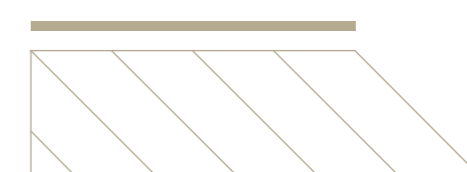

Figure 14: Cutting the row along the centre line. Cutting a groove and inserting the loose tongue.
3. Cut the row along the centre line. Cut a groove down the full length of the row with the router bit included in the delivery. Match the height/position of the existing groove. Insert and glue down a loose tongue throughout the full length of the row using moisture-resistant PVAc glue – we recommend Dinesen Wood Glue. See figure 14.